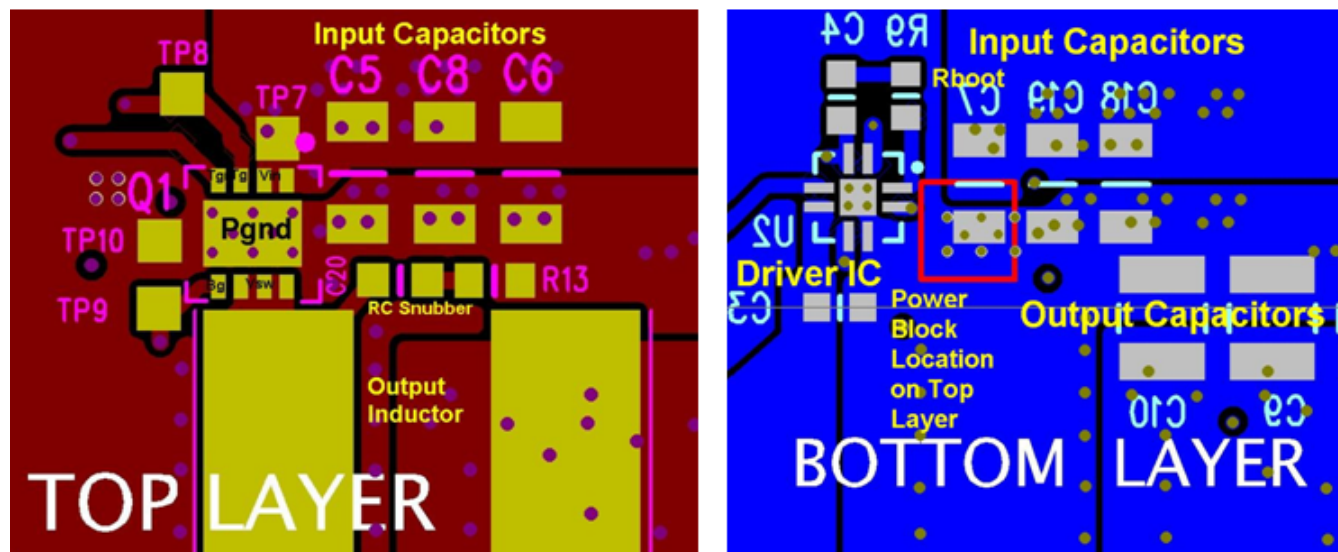

Figure 21. Recommended PCB Layout (Top Down)
- The placement of the input capacitors relative to the power block's V_{IN} and P_{GND} pins should have the highest priority during the component placement routine. It is critical to minimize these node lengths. As such, ceramic input capacitors need to be placed as close as possible to the V_{IN} and P_{GND} pins (see Figure 21). The example in Figure 21 uses six 10-μF ceramic capacitors (TDK C3216X5R1C106KT or equivalent). Notice there are ceramic capacitors on both sides of the board with an appropriate amount of vias interconnecting both layers. In terms of priority of placement next to the power block, C5, C7, C19, and C8 should follow in order.
- The switching node of the output inductor should be placed relatively close to the power block V_{SW} pins. Minimizing the node length between these two components will reduce the PCB conduction losses and actually reduce the switching noise level.⁽¹⁾ In the event the switch node waveform exhibits ringing that reaches undesirable levels, the use of a boost resistor or RC snubber can be an effective way to easily reduce the peak ring level. The recommended boost resistor value will range between 1 Ω to 4.7 Ω depending on the output characteristics of driver IC used in conjunction with the power block. The RC snubber values can range from 0.5 Ω to 2.2 Ω for the R, and from 330 pF to 2200 pF for the C. Please refer to Snubber Circuits: Theory, Design and Application (SLUP100) for more details on how to properly tune the RC snubber values. The RC snubber should be placed as close as possible to the V_{SW} node and P_{GND} (see Figure 21).⁽¹⁾
(1) Keong W. Kam, David Pommerenke, "EMI Analysis Methods for Synchronous Buck Converter EMI Root Cause Analysis", University of Missouri – Rolla
- Use the smallest drill size allowed in your design. The example in Figure 21 uses vias with a 10-mil drill hole and a 16-mil capture pad.